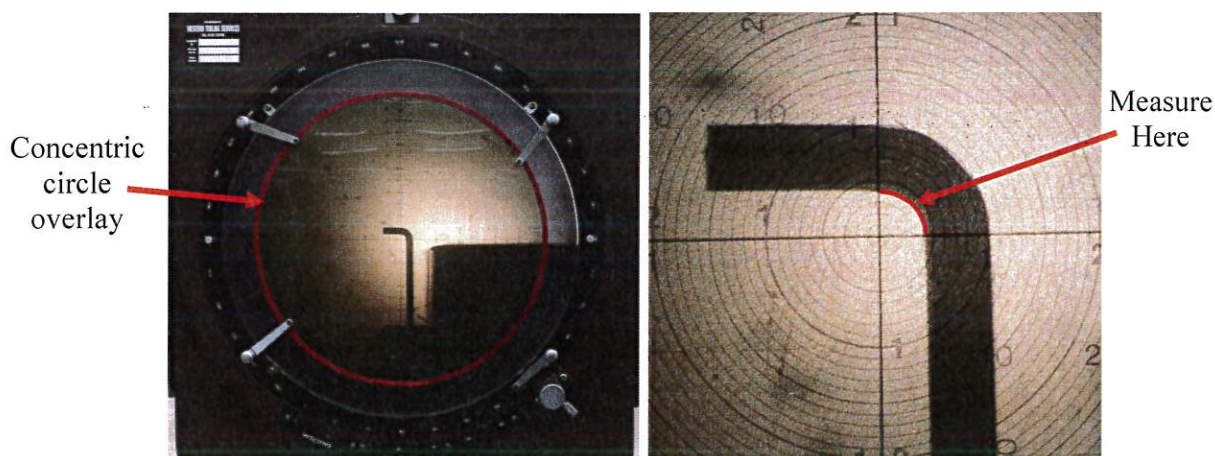

Figure 14: Measure the Foot Radius of Leg 2 by use of the concentric circle overlay.
6.2.10. **Foot Rad.** Use the concentric circle overlay to find the internal radius of the inside angle as shown in Figure 14: Enter the result manually using the Keyboard.